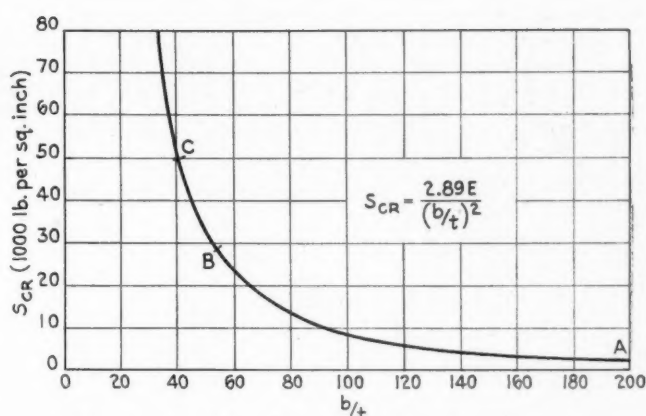

Fig. 12—Critical buckling stress under edge compression
Fig. 12 is a plot of Formula (33). The formula is only applicable so long as the value of S_{cr} is less than the yield-point stress of the material, since the yield-point stress is the maximum which the plate can sustain. The portion of the curve between points A and B is applicable for a steel having a yield point of 29,000 lb. per sq. in. and likewise the curve between points A and C is valid for a steel with a yield point of 50,000 lb. per sq. in. It is the usual practice to provide a smooth transition from the curve to the horizontal limits at the yield points. A method of accomplishing this will now be explained.